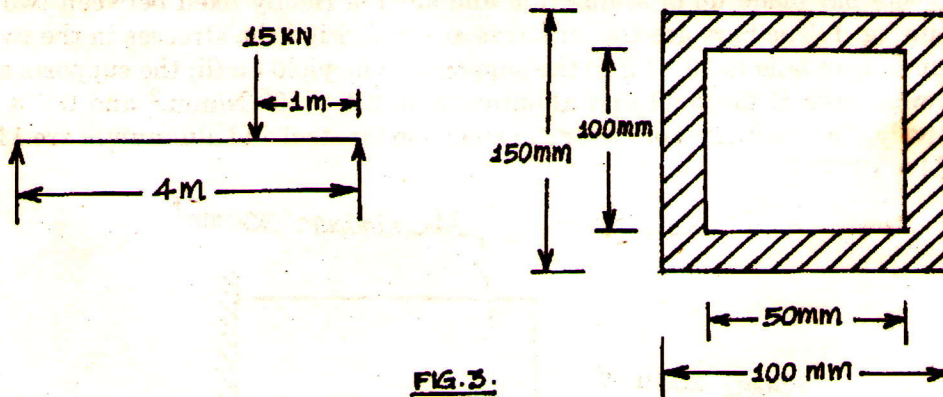

FIG. 3.
- (b) A simply supported beam of length 3 m. carries a point load of 15 kN at a distance of 2 m. from the left support. The cross-section of the beam is as shown in Fig. 3. Determine the bending stresses at A and B.